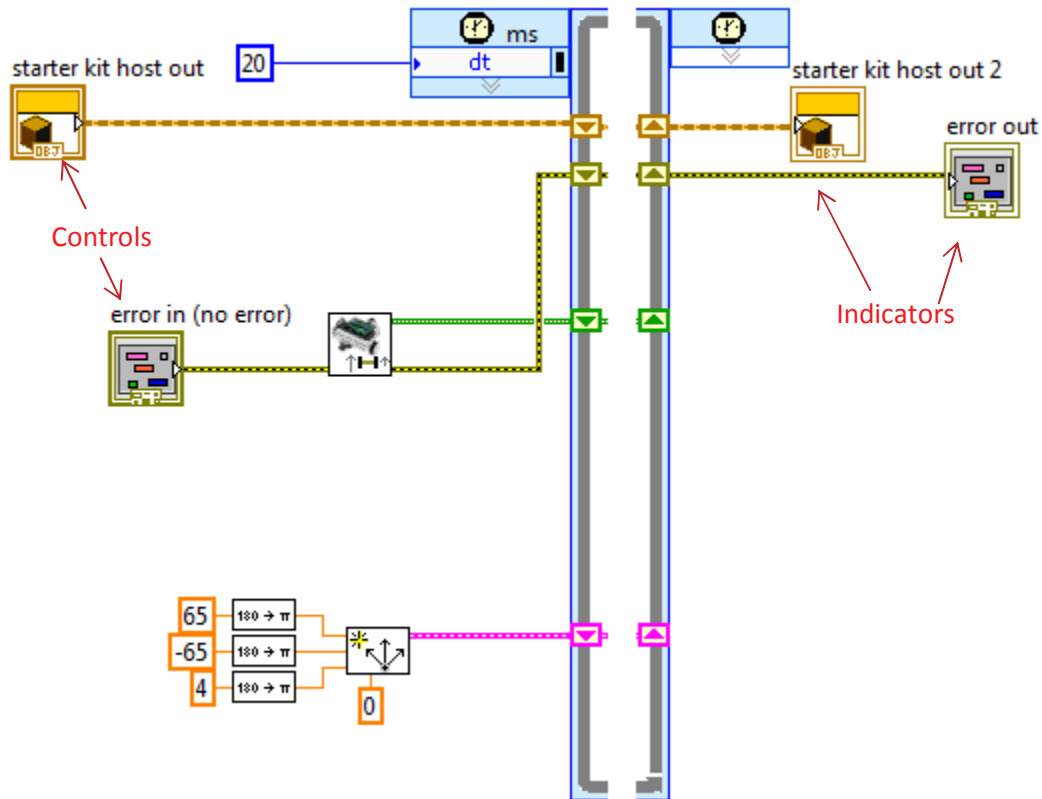

Figure 3.4
Step 6: Next right click on the host wire that was previously connected to the initialize and create a control. Repeat this process with the error wire that was previously connected to the initialize. See figure 3.4.
Step 7: Next right click on the host wire that was previously connected to the close and create an indicator. Repeat this process with the error wire that was previously connected to the close. See figure 3.4.